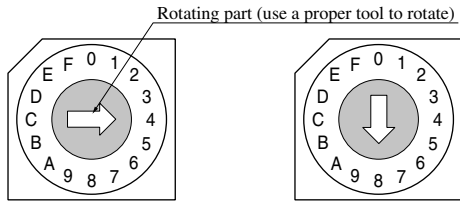

Fig. 1: Rotary S/W P1 (default:4)
3. Should setting be necessary, switch off electrical supply, adjust the set point P1 (Refer to Fig. 1, Table).